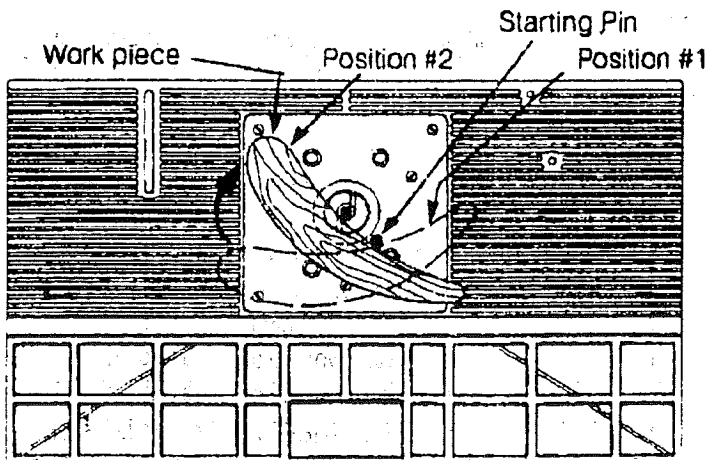

FIGURE 38
2. Thread starting pin into tapped hole in the throat plate, as shown in Figure 38, and tighten securely.
3. To free route with starting pin, orient workpiece on table top against starting pin, as shown by position #1 in Figure 38. Workpiece should not contact cutter.